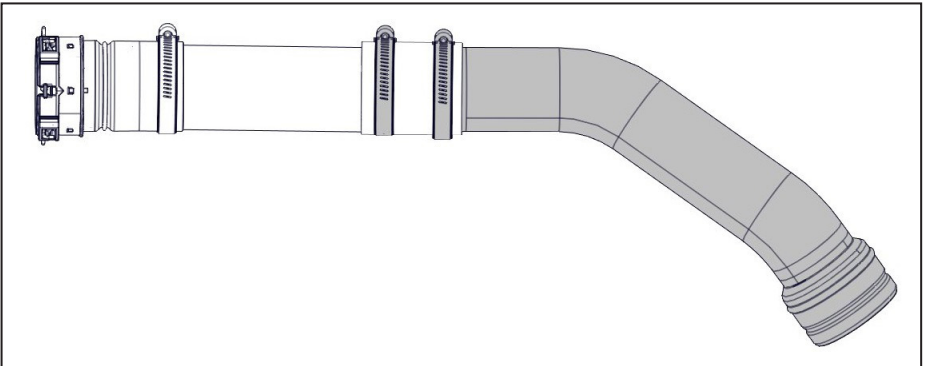

Figure 101 — Installing the CAC hoses
- ☐ Install the OEM "hot" CAC tube into the VMAC silicone hose. Ensure the silicone hose has equal coverage of both components. Install the gear clamps with the screw heads facing the firewall to provide the best fit (Figure 101).